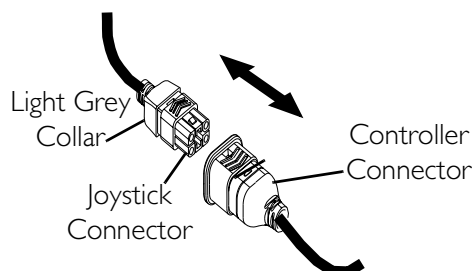

FIGURE 18.2 Disconnecting/Connecting the Joystick
NOTE: For this procedure, refer to FIGURE 18.2.
1. Hold the light GREY collar portion of the joystick connector with one hand and the controller connector on the wheelchair in the other and disconnect them by pulling them apart (DETAIL "A" of FIGURE 18.2).
1. Hold the light GREY collar portion of the joystick connector with one hand and the controller connector on the wheelchair in the other and align them; then lightly push to engage the joystick connector and the controller connector (DETAIL "A" of FIGURE 18.2).